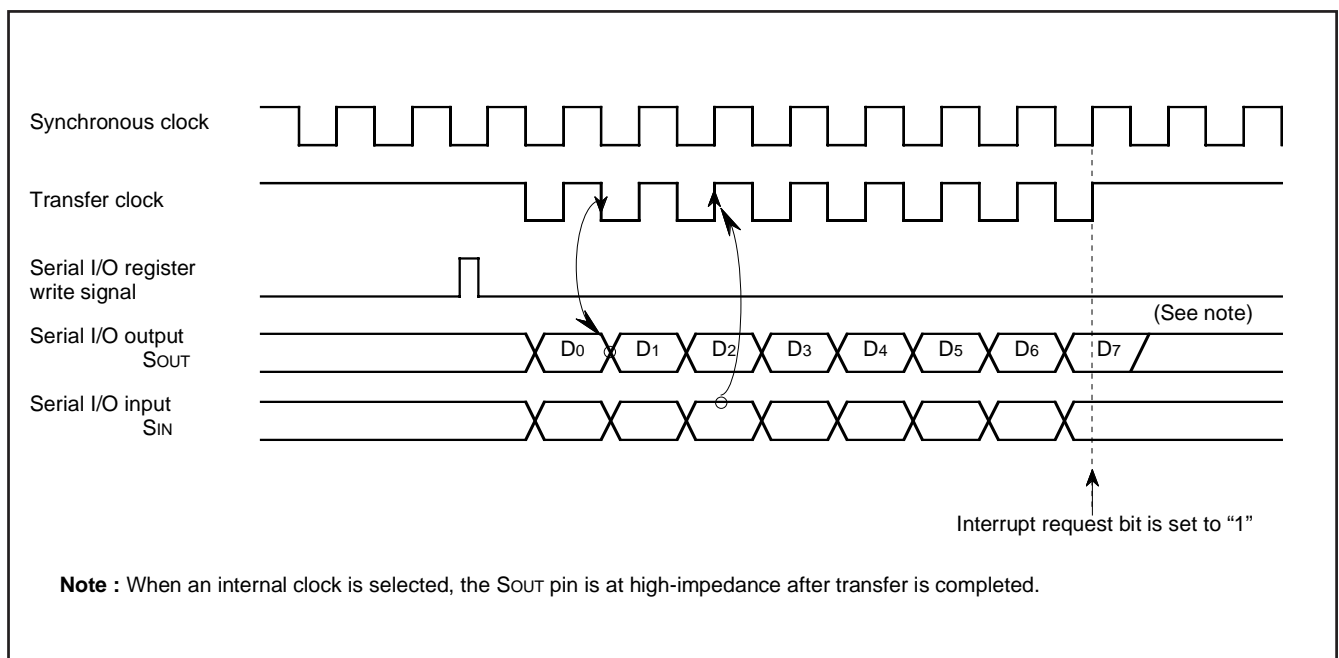

Fig. 8.5.2 Serial I/O Timing (for LSB first)
**External clock :** The an external clock is selected as the clock source, the interrupt request is set to "1" after the transfer clock has been counted 8 counts. However, transfer operation does not stop, so the clock should be controlled externally. Use the external clock of 1 MHz or less with a duty cycle of 50%. The serial I/O timing is shown in Figure 8.5.2. When using an external clock for transfer, the external clock must be held at HIGH for initializing the serial I/O counter. When switching between an internal clock and an external clock, do not switch during transfer. Also, be sure to initialize the serial I/O counter after switching.